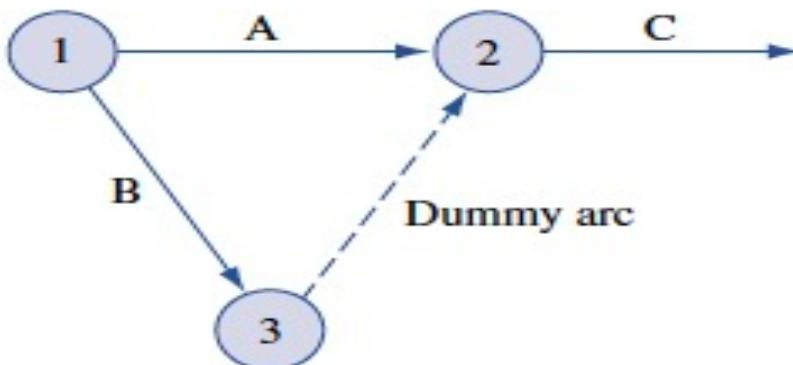

Figure 5.5 Use of Dummy Activity
- By using a dummy activity (indicated by a dotted arc), as in Figure 5.5, we may represent the fact that A and B are both predecessors of C.
- Figure 5.5 ensures that activity C cannot begin until both A and B are completed, but it does not violate rule 5.